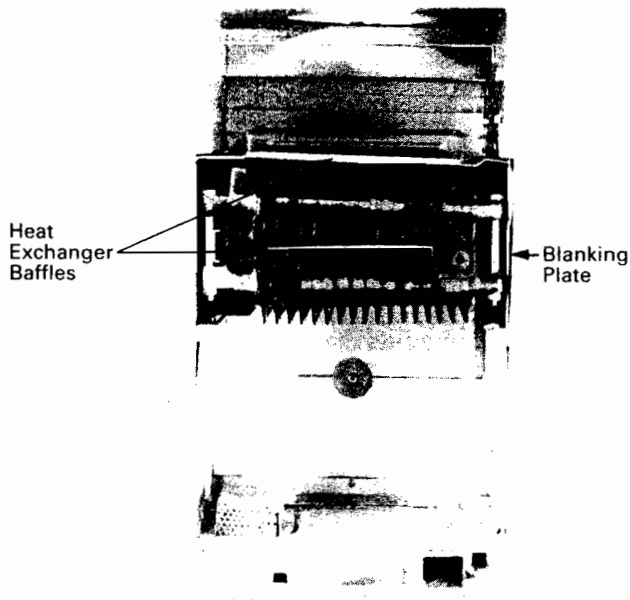

Fig. 3. Boiler Connections
Boiler Connections (Fig. 3)
4. Slide out the baffles from between and above the heat exchanger castings and slide out the blanking plate (Fig. 3).
5. Remove the two right angled securing clips (Fig. 3).